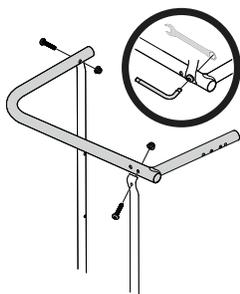

Figure 5
- Attach additional corner tube to free ends of upright tubes, aligning with mounting holes and secure with two pan head screws and two hex nuts as shown in Figure 5.
- Tighten all of the hardware installed at this time with torx tool and 1/2" wrench as shown in inset of Figure 5.